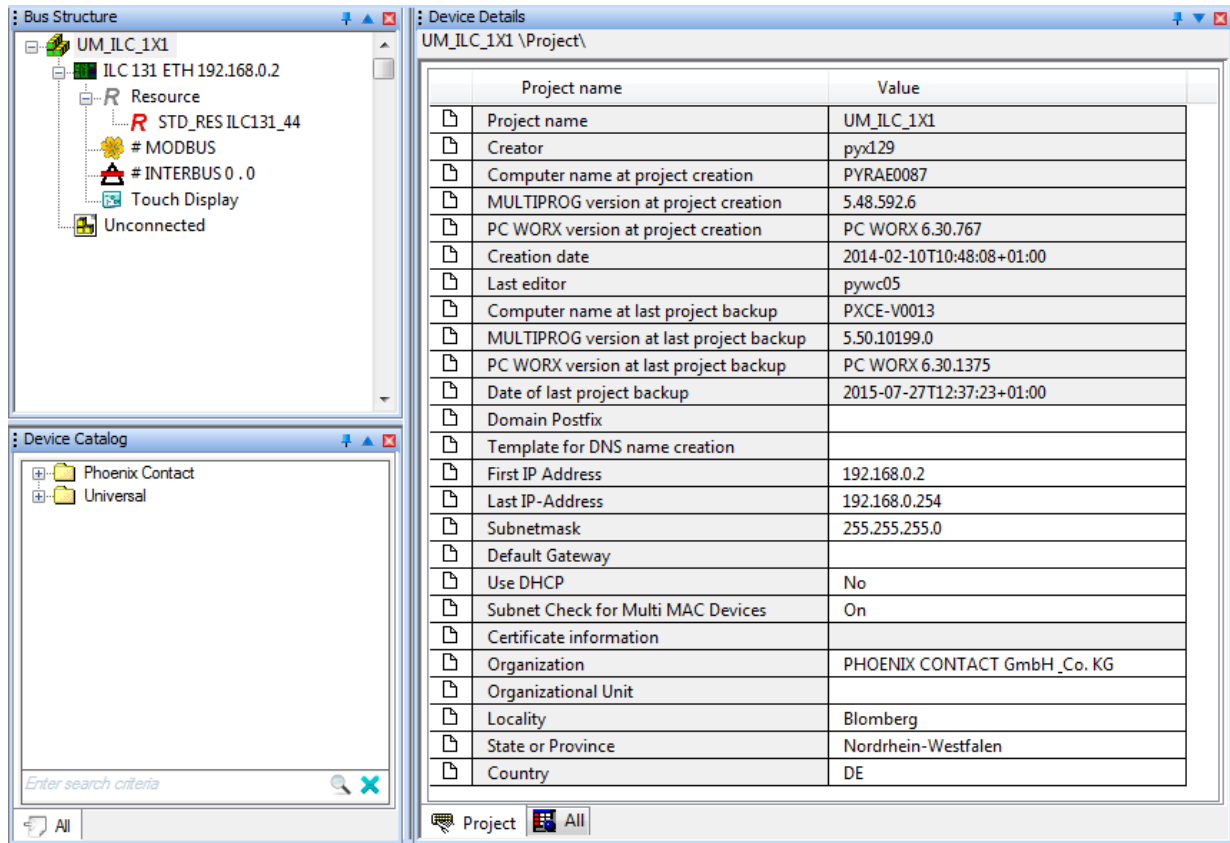

Figure 3-1 Project information after creating a new project
- Save the project using an appropriate name (in the example in Figure 3-1: “UM\_ILC\_1X1”).
If your network does not permit the use of the IP address used in the example project, adjust the settings in the project information accordingly (see Figure 3-1 on page 44).
If any modifications are made to the project information (see Figure 3-1) that affect the IP settings for the controller, a warning is displayed. However, the modification is not implemented automatically.